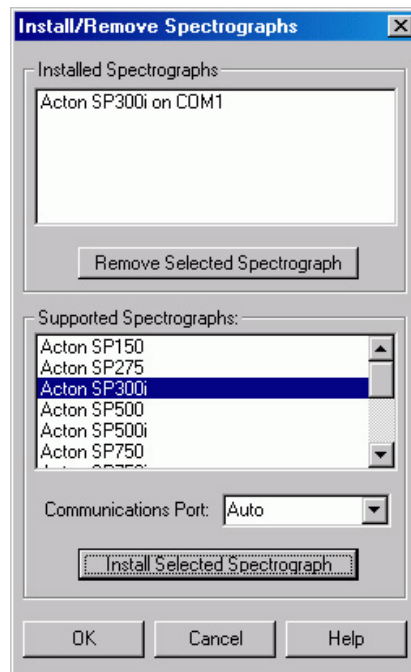

Figure 22. Install/Remove Spectrographs
6. Click on **Install/ Remove Spectrograph**. This will open the Install/Remove Spectrographs dialog (Figure 22). The lower window lists the supported Spectrographs. The upper window lists those installed. To install a spectrograph, select it from the list in the lower window, select the Communications Port (Auto, COM1-COM8, or DEMO) and click on **Install Selected Spectrograph**. The installed spectrograph will then appear in the upper window. In the case of the example shown in Figure 22, the selected spectrograph is an Acton SP300i.